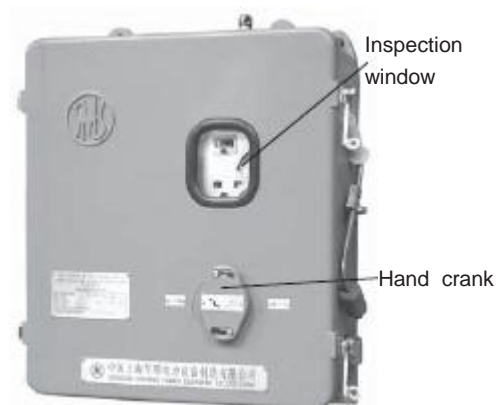

Fig. 1
The motor drive CMA9 (fig.1,2) serves for driving tap changer type CV to selected operating position. It also can be used for some off-load tap changers.
3.1.1 Housing (See figure 1)